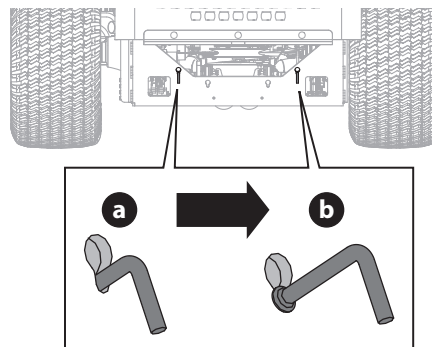

Figure 41
1. To engage the transmission bypass rods, pull the rod (a) up into the larger opening of the key slot, then pull back until the collar on the rod passes through the frame (Figure 41).
2. Lower the rod back into the smaller opening of the key slot, making sure the collar is secured on the outside of the frame (b). Repeat on opposite side (Figure 41).